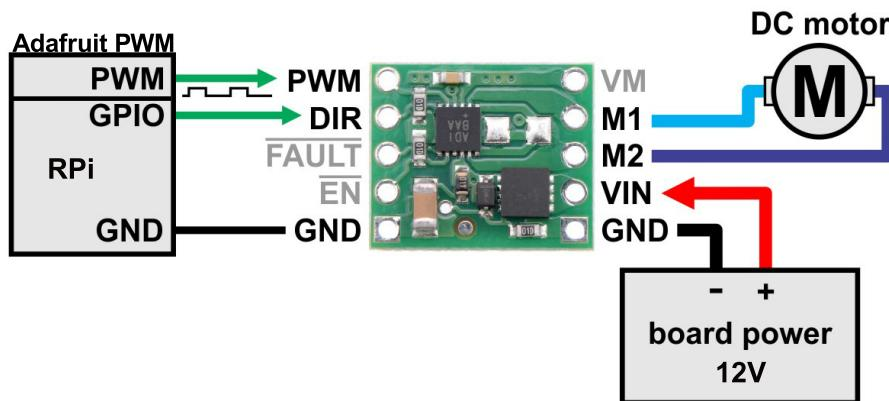

Figure 19: The Motor Driver board and PWM interface diagram. From <https://www.pololu.com/product/2961>
The motor drivers are responsible for controlling the amount of power delivered to the motors, as well as which direction they spin. The MAX14870 (Maxim Integrated Co.) accepts a number of different inputs but our application only uses four: the PWM input, the direction input and power and ground for the motor (figure 19). The PWM comes from the Adafruit PWM driver, while the direction control comes from one of the pins (GPIO) on the RPi. When the joystick is moved from the dead zone³, a value proportional to the displacement of the joystick is generated. Since the PWM has 12 bits of resolution (meaning it has 4096 (2^{12}) levels from off to on), numbers from 0 to 4095 represent the levels from fully off (0) to fully on (4095). For instance, if the gamepad joystick is moved halfway between the center position and fully engaged, the value from the joystick will be 2048, and the pulse width proportion will be 50%, or half power. This pulse waveform goes into the MAX14870 where the H-bridge⁴ pulses 'on' half the time and 'off' half the time, creating the effect of half power. You most likely performed this exact same technique when driving your SeaPerch for the first time, essentially toggling the switches back and forth (pulsing) to change the speed of the vehicle to gain a bit more fine control.